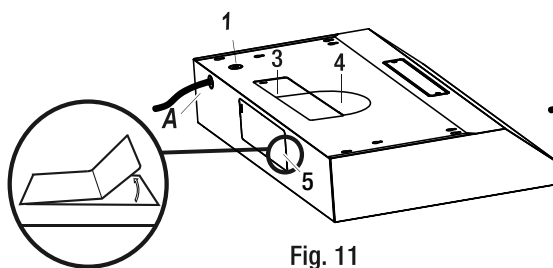

Fig. 11
- Choose the venting hole to remove for your installation type. Use the top holes (3 & 4) for a top venting installation and the back hole (5) for a back venting installation. See Installing the damper section for more details.
- Carefully remove the cover (3, 4 or 5) of the appropriate venting hole using a flat head screwdriver or needle nose pliers (refer Fig. 11). Be careful not to leave any debris inside the range hood (A).